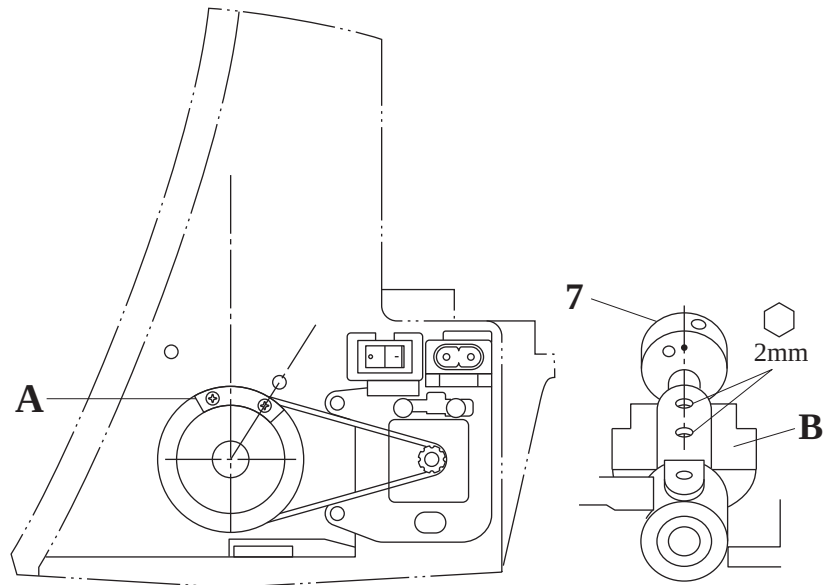

Fig.2
5. Check position of balance weight "A and B".(Fig.2)